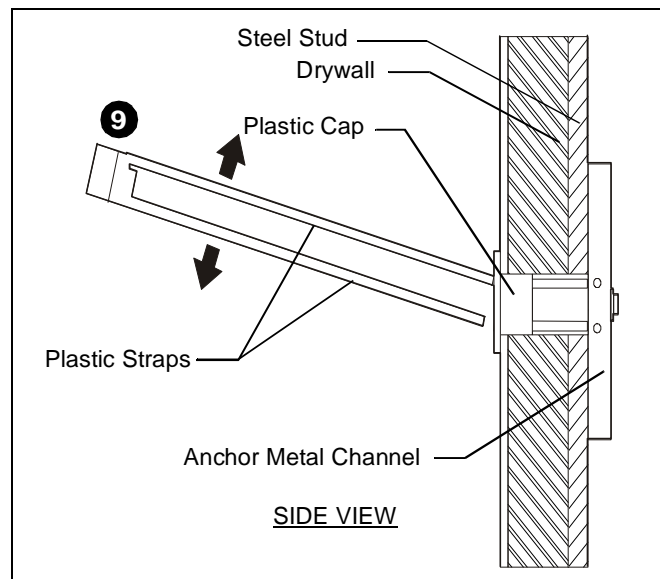

Figure 27
9. Snap off plastic straps on anchor at wall by pushing side to side, snapping off straps level with flange of plastic cap. (See Figure 27)
11. Place wall track accessory (A) over anchors and align mounting holes in display mount with holes in anchors. (See Figure 27)